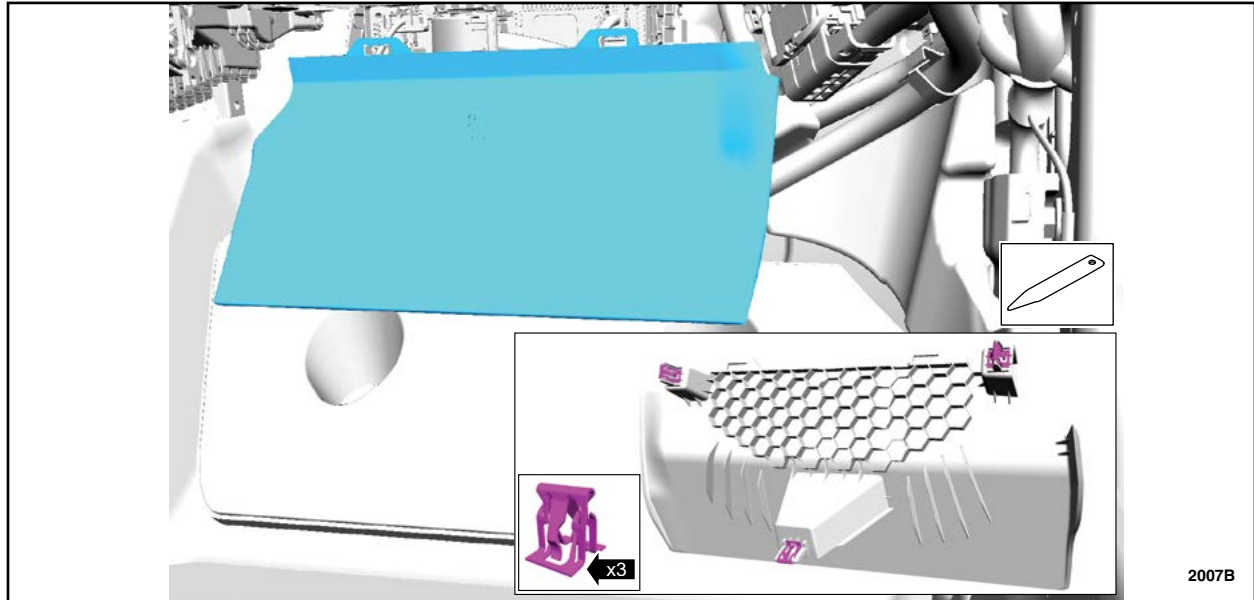

FIGURE 2
4. Using a trim tool, release the clips and remove the trim panel. See Figure 2.